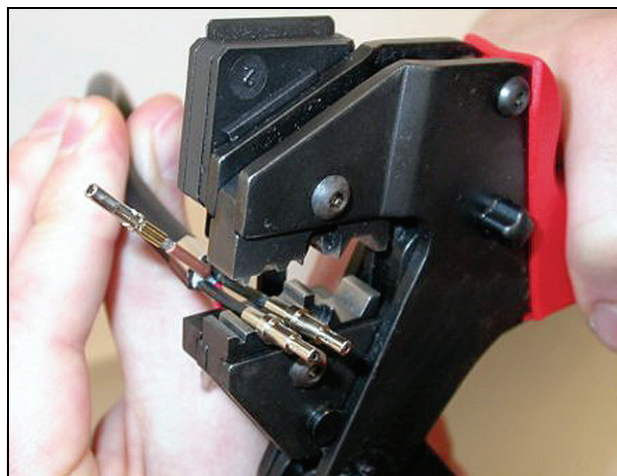

figure 30.24: Crimping ferrules (2)
- 24 Put both ferrules in the crimping tool (tool 3, see figure 30.24).